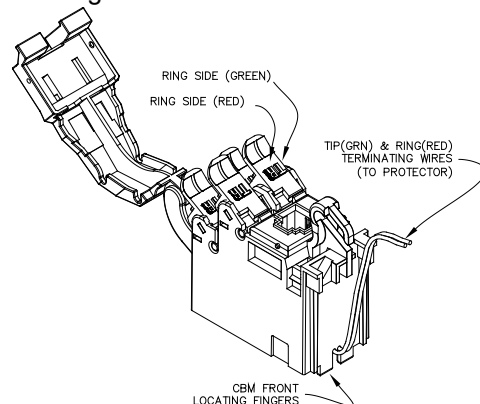
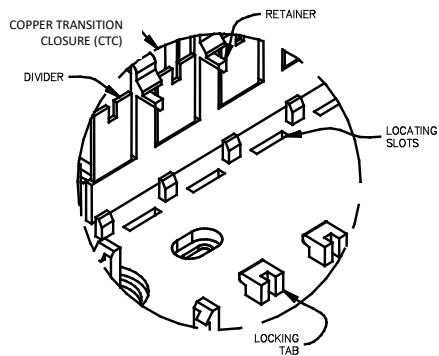

Figure 6
Figure 7
2. Insert the CBM module locking hinge into the locking tab (See Figure 7).
3. Pull back retainer (See Figure 7) and slip CBM front locating fingers (See Figure 6) into locating slot.
4. Dress terminating wires (to protector) over divider (See Figure 7).